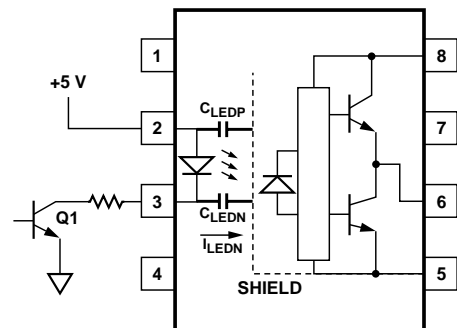

Figure 24. Not Recommended Open Collector Drive Circuit.
Step 1: Calculate Rg minimum from the IOL peak specification. The IGBT and Rg in Figure 24 can be analyzed as a simple RC circuit with a voltage supplied by the HCPL-314J.
The open collector drive circuit, shown in Figure 24, can not keep the LED off during a $+dV_{CM}/dt$ transient, since all the current flowing through C_{LEDN}